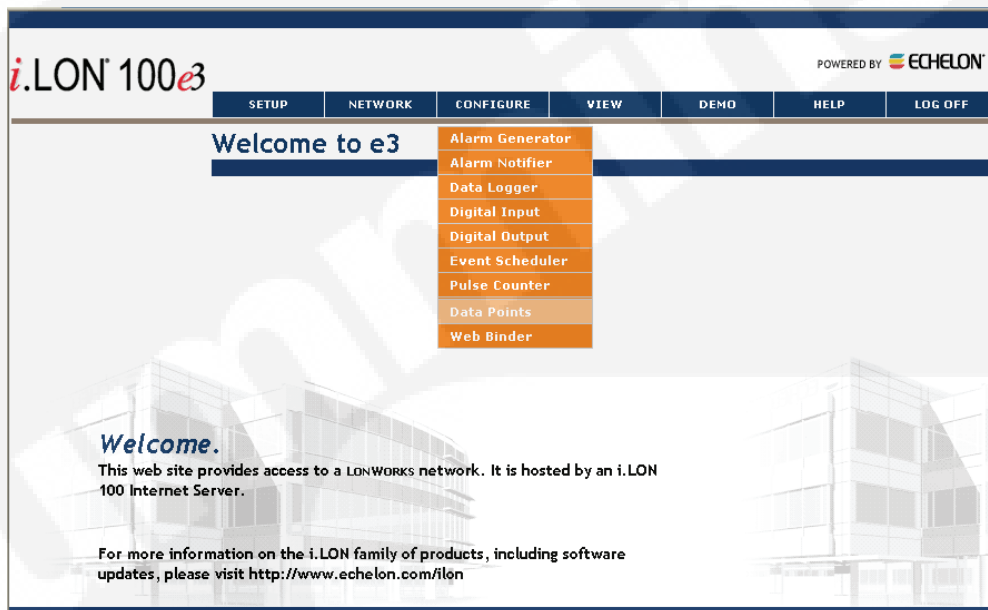

FIGURE 6-8. DATA POINT SELECTION
2. Select **Service** (see Figure 6-4) to open the Data Point Selection screen (see Figure 6-8).